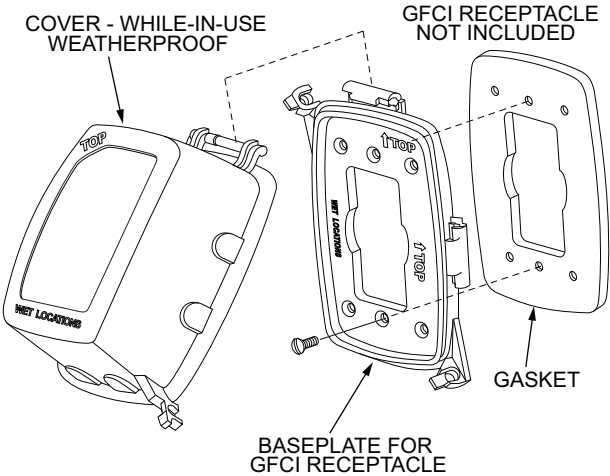

Fig. 38 — Weatherproof Cover Installation
4. Mount the weatherproof cover to the backing plate as shown in Fig. 38.